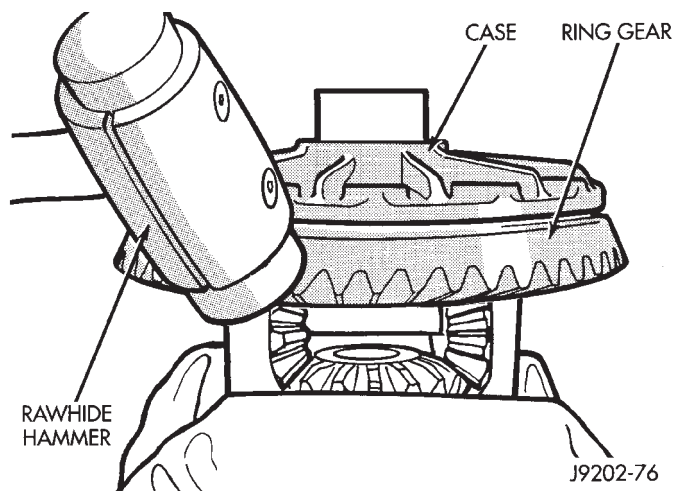

Fig. 26 Ring Gear Removal
- (1) Remove differential from axle housing.
- (2) Place differential case in a suitable vise with soft metal jaw protectors. (Fig. 26)
- (3) Remove bolts holding ring gear to differential case.
- (4) Using a soft hammer, drive ring gear from differential case (Fig. 26).